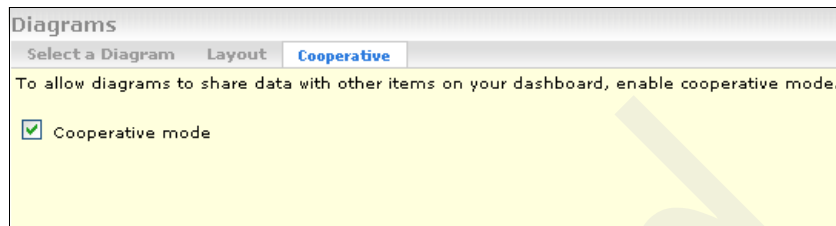

Figure 8-153 Enabling cooperative mode in the Diagrams view
- b. Click the **Cooperative** tab. On the Cooperative page (Figure 8-153), select **Cooperative mode**.